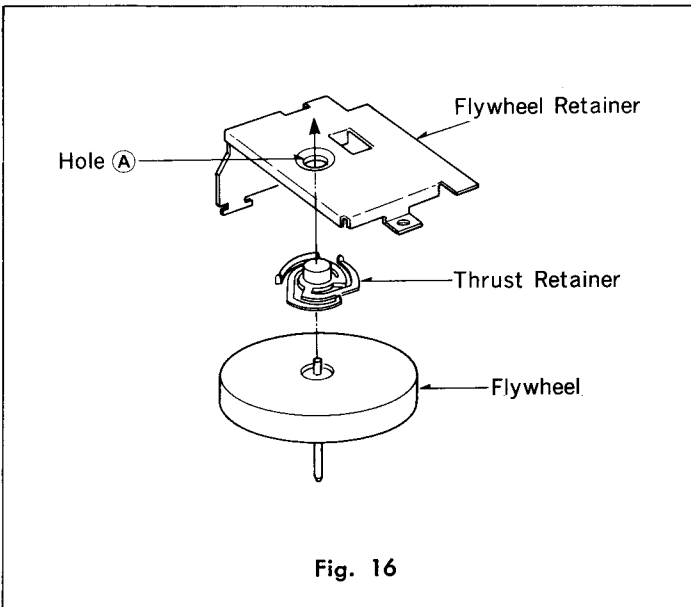

Fig. 16
1. Insert the thrust retainer into the hole (A) of the flywheel retainer as shown in fig. 16.